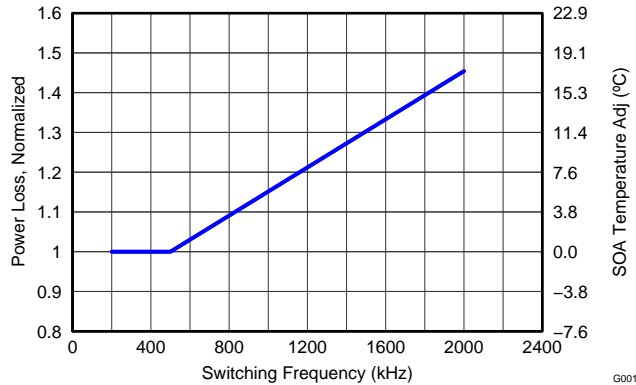

Figure 12. Normalized Power Loss vs Frequency
- Normalized Power Loss for switching frequency \approx 1.09 (Figure 12)
- SOA adjustment for switching frequency \approx 3.4 $^{\circ}$ C (Figure 12)